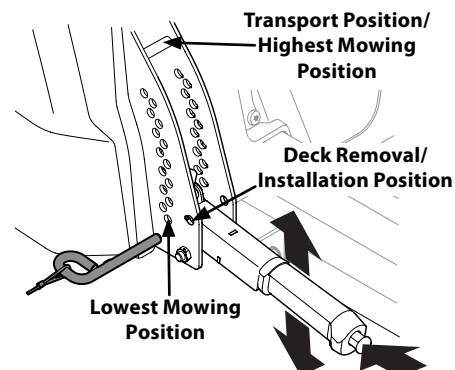

Figure 4-13
- a. Using the deck lift handle, raise the deck to the position that provides the most horizontal run of the belt between the deck idler pulleys and the PTO pulley on the bottom of the engine. See Figure 4-13.
- d. Lower the deck into the deck removal/installation position using the deck lift handle. See Figure 4-13.
- e. Lower the deck into the deck removal/installation position using the deck lift handle. See Figure 4-13.
1. Place the deck lift handle in the highest mowing position. See Figure 4-13.